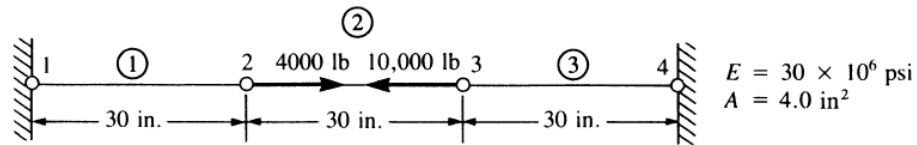

Figure 3
- 2A. For bar element shown in Figure 3, determine the nodal displacements and the forces in each element. Use the direct stiffness method for these problems. (05)